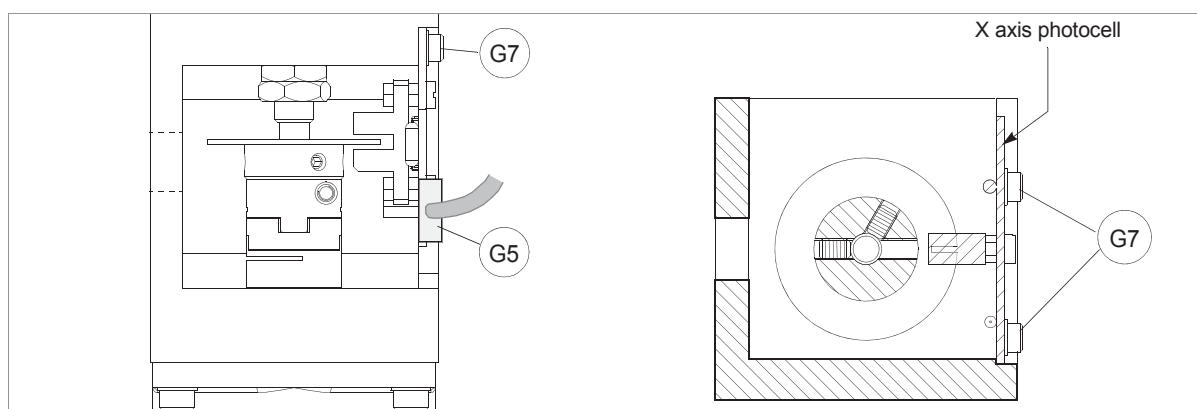

Fig. 147
- 6) remove the worn sensor and fit the new one so that it almost touches the bottom (fig. 147).
- 7) disconnect the photocell wire (G5) (fig. 147).